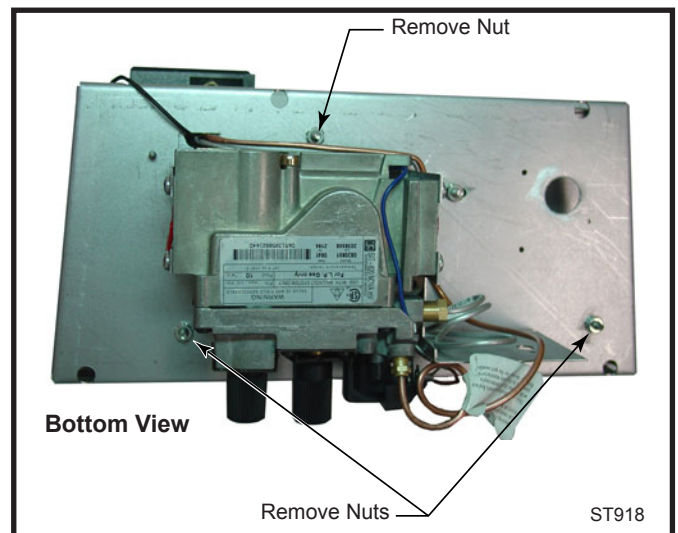

Fig. 78 Remove three (3) nuts securing ember bed in place.
1. Remove three (3) 3/8" nuts on bottom side of burner pan. (Fig. 78)
2. Thread and tighten 3/8" nuts back onto pem studs on underneath side of control panel, reversing Step 1 shown in Figure 78.